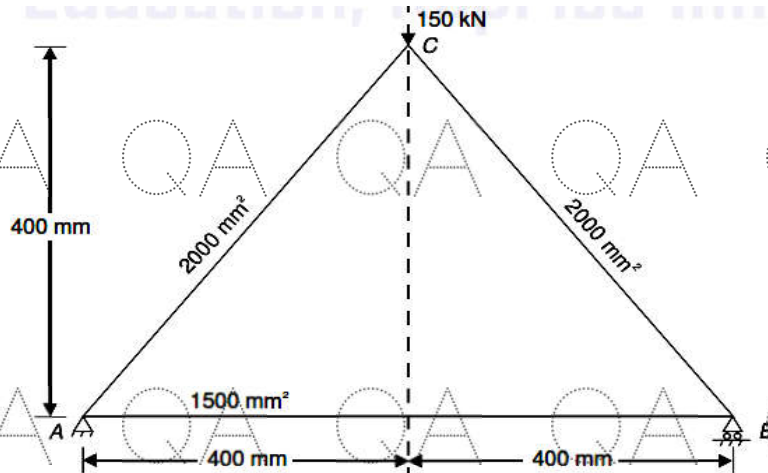

Figure 3
4. For the three – bar truss shown in figure 3. Determine the nodal displacements and the stress in each member. Find the support reactions also. Take modulus of elasticity as 200 GPa. [10]